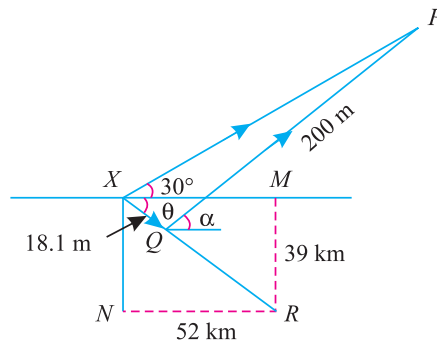

Fig. 19.11.
Now let us draw the muzzle velocity diagram as shown in Fig. 19.11. and as discussed below:
5. Now let the rifleman make an angle  $\alpha$  with the train in order to hit the object as shown in Fig. 19.11.